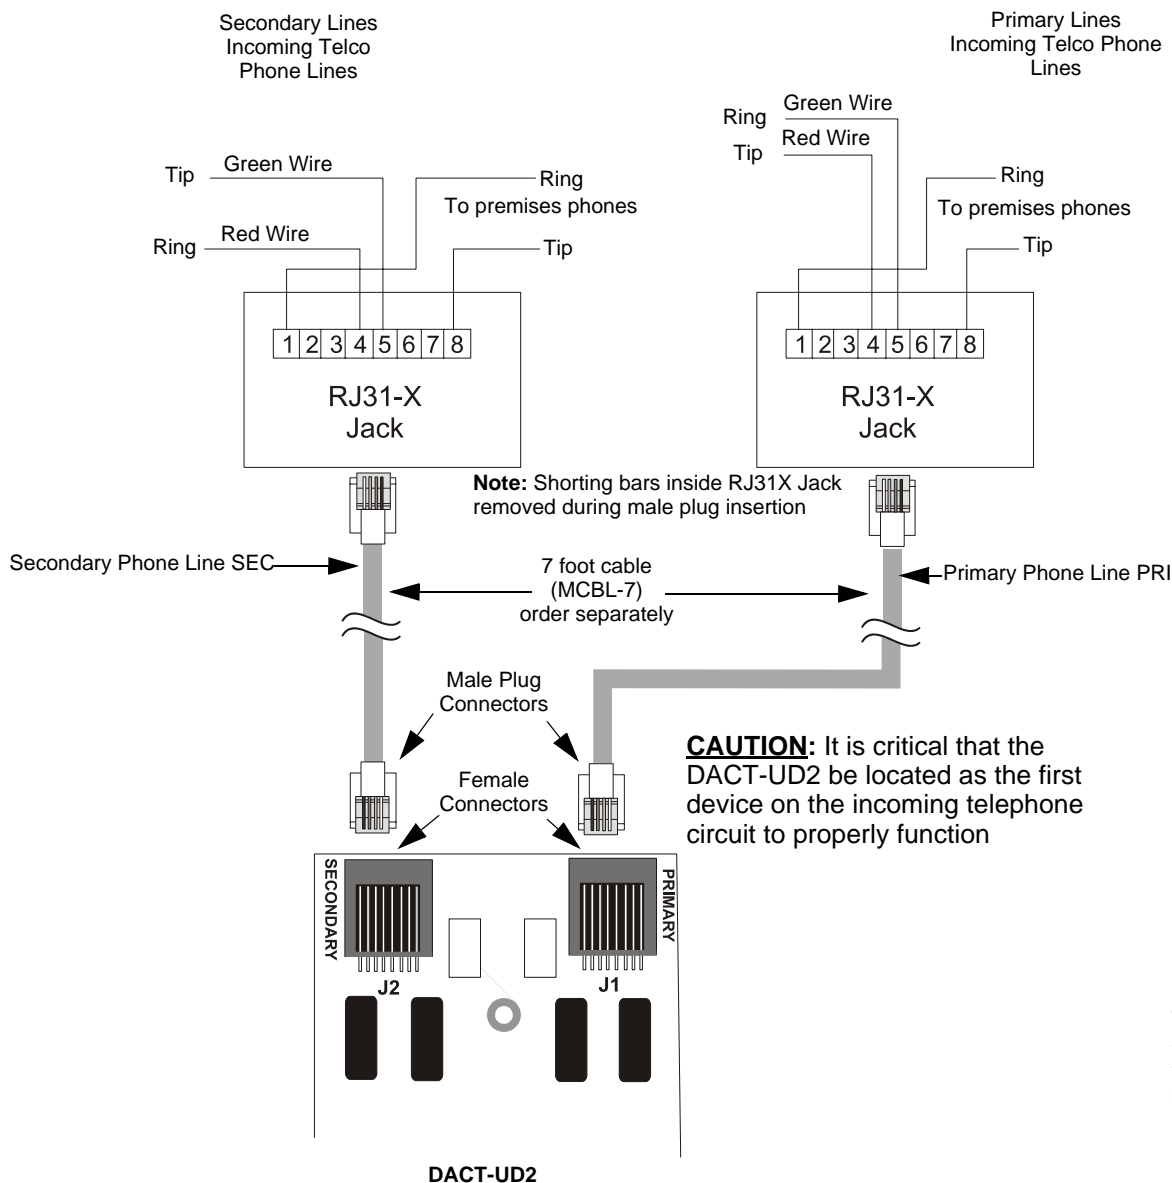

Figure 2.14 Wiring Phone Jacks
11. Refer to the Telephone Requirement and Warnings section of the DACT-UD2 Installation and Programming Manual Document #53037, before proceeding with this step. Connect the premises primary and secondary phone lines to the DACT-UD2 as illustrated in Figure 2.14 and test the system for correct operation